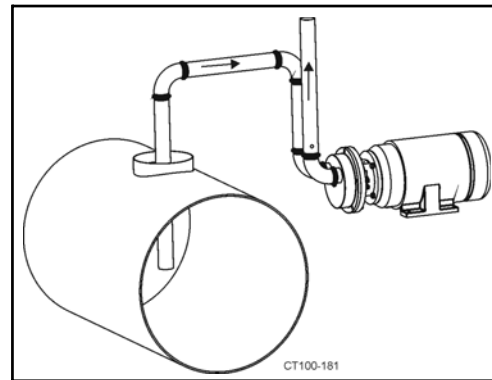

Figure 4 - Vertical Suction and Discharge
- **Vertical Suction Piping:** For suction lift applications, install vertical section of pipe no less than 3 feet (1 meter) long in suction and discharge piping. This will prevent backflow (due to siphon effect) from evacuating liquid in casing (Figure 4).
- **Foot or Check Valve in Suction Piping:** For suction lift applications not allowing vertical suction piping (Figure 4), install foot or check valve to prevent backflow and siphon effect from evacuating liquid in casing.